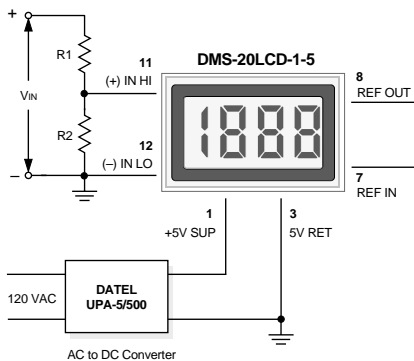

Figure 4. Input Attenuation Circuit
**3. Engineering Scaling:** For measuring voltages greater than the full scale input range of a given meter, the input signal must be attenuated. A simple voltage divider (similar to that shown in Figure 4) will scale the input to within the range of the selected meter. R1 and R2 should be precision, ±1%, metal-film resistors with absolute TCR's less than 50ppm/°C. See Ap Note 4 for more information on engineering scaling.